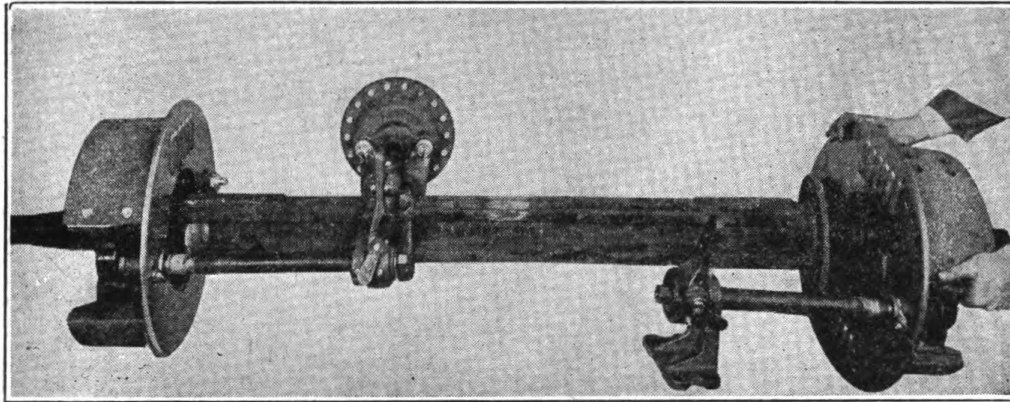

FIGURE 15. REMOVING BRAKE ASSEMBLY FROM AXLE.
1. Mark an "L" on the left hand brake assembly and an "R" on the right hand assembly for identification when reassembling. Remove the brake assemblies by taking out the eight bolts holding brake adaptor mounting plate to axle flange on both sides (Fig. 15). Lift the complete brake assembly off axle.
mounting plate to axle flange on both sides (Fig. 15). Lift the complete assembly off axle.